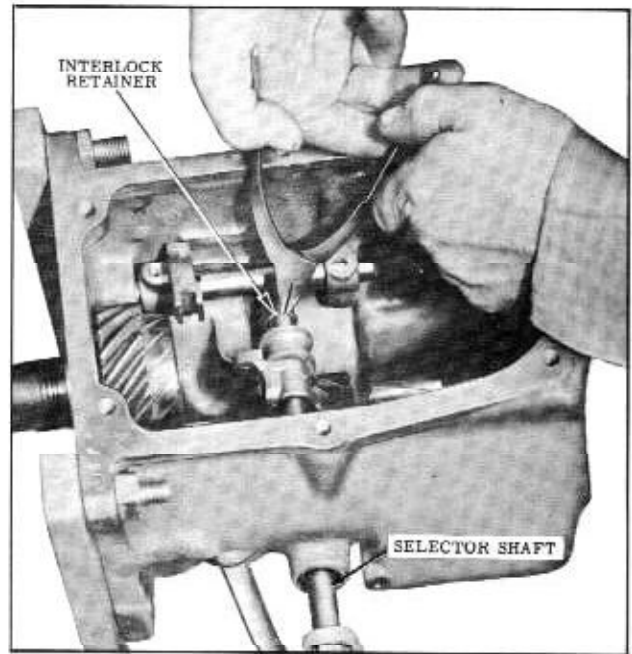

Fig. 11-14 Removing Interlock Retainer
14. Pull selector shaft away from the second and third speed shifter shaft and remove the interlock retainer. (Fig. 11-14)